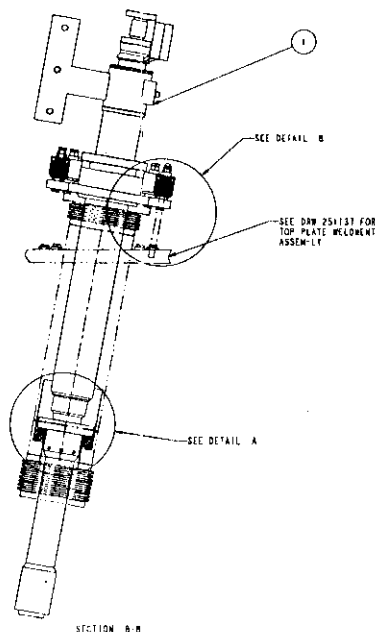
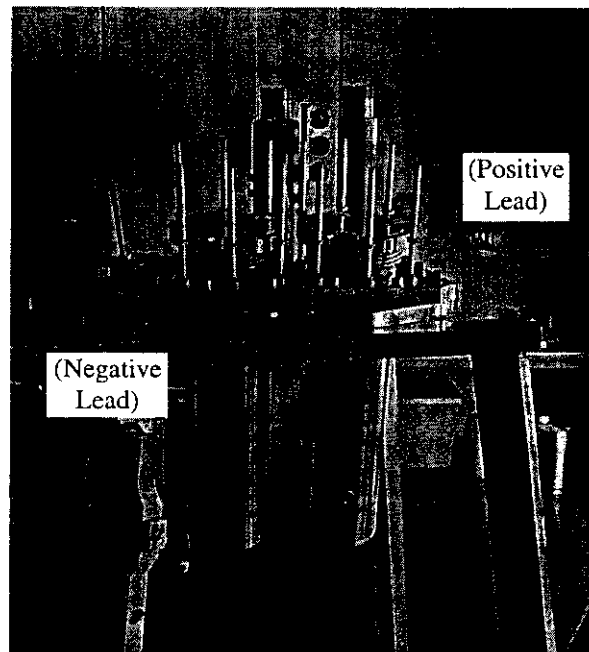

Figure 1.21a HTS Lead in Test Chimney. Note: CERN chimneys do not have bellows.
Figure 1.21b Locations of the negative and positive leads.
- 1.21 Install the lead in the chimney per Figure 1.21a until the lower sealing flange bottoms out. The flag should be toward the bayonet connections on the insert. The negative lead is installed on the left hand side, and the positive lead is installed on the right hand side as shown in Figure 1.21b.